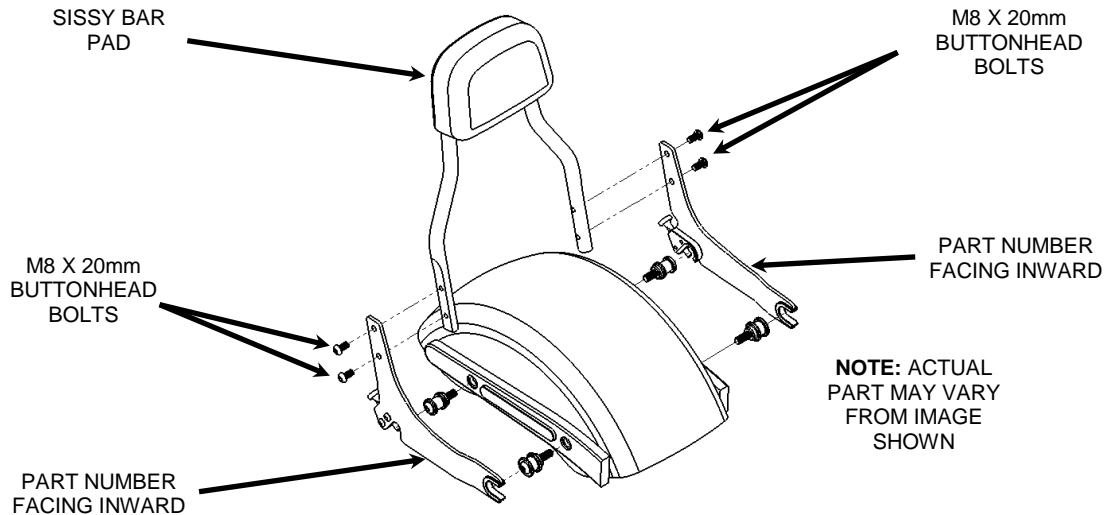

FIGURE 3
- Install the supplied side plates on to the sissy bar with the four M8 X 16mm button head bolts. Make sure the u-shaped grommets are facing the same direction as the sissy bar pad and the part numbers are facing inward. See **FIGURE 3**. Snug the bolts but **DO NOT TIGHTEN** at this time.